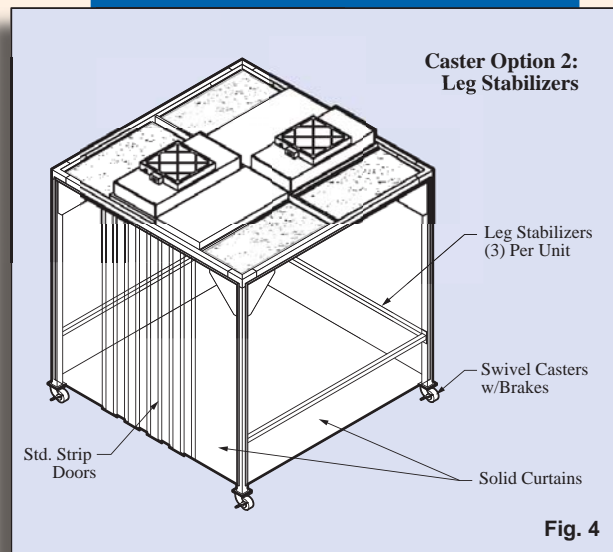

Fig. 4
Caster Option 2 includes three (3) Leg Stabilizers for sides with solid curtains as shown in Fig. 4.